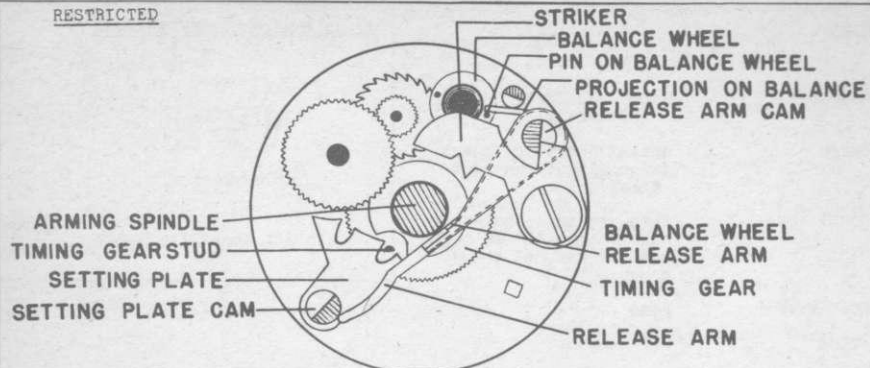
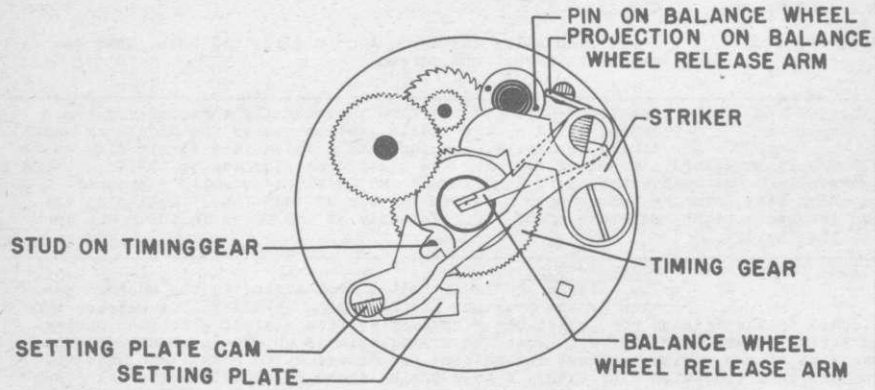
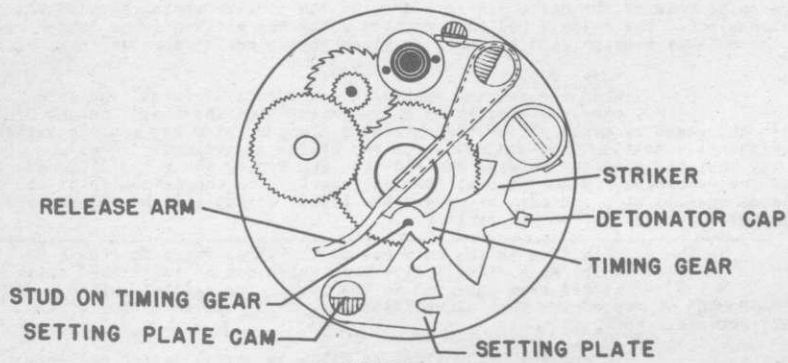

FIGURE 9
FIGURE 10
FIGURE 11
<div>RESTRICTED</div> <div>Data</div> <div>BOMB USED IN M 83 4 lb. Frag. (Butterfly).</div> <div>FUNCTIONING Mechanical time fuze, max. setting of 30 minutes.</div> <div>ARMED CONDITION Assumed armed when arming spindle is out .25 in., as there is no external indication of the time setting.</div> <div>FUZES USED WITH None</div> <div>ARMING TIME 3.5 rotations of arming spindle.</div> <div>DIAMETER OF FUZE 1.75 in.</div> <div>LENGTH (w/booster) 2 in.</div> <div>SPINDLE LENGTH 6.5 in.</div> <div>MATERIAL Three zinc alloy castings, top, middle, and base, held together by three long screws.</div> <div>GENERAL:<div>The top section of the fuze is centrally threaded for the arming spindle, the middle section houses the clockwork and firing mechanism, and the base section is a simple flat casting added only to afford a means of screwing the plastic booster cup to the fuze. The fuze screws into the bomb with a left hand thread and is tightened with a spanner wrench which fits into the two spanner holes in the top of each fuze. Luting on the threads insures a tight, moisture-proof fit. Assembly of the fuzes in the bombs is done at the factory.</div></div> <div>OPERATION:<div>The clockwork mechanism in the unarmed position is seen in Fig. 9. When the arming spindle has been withdrawn approximately .25 inch, the balance wheel release arm, pivoted on the release arm cam, moves a limited distance until it is centered over the hole previously occupied by the arming spindle, Fig. 10. This action prevents the reinsertion of the arming spindle and starts the mechanism in operation as the projection on the balance wheel release arm frees the balance wheel. With a maximum setting time of 30 minutes, the functioning is as follows:<div>(1) The timing gear, under the influence of its clock spring, rotates in a counter-clockwise direction. Near the end of its first revolution, the stud on the timing gear engages the first slot of the setting plate and pulls the latter around with it a limited distance in a clockwise direction.</div><div>(2) Near the end of the timing gear's second revolution, the stud engages the second slot in the setting plate, once again moving it a limited distance.</div><div>(3) Near the end of the third revolution, the stud on the timing gear engages the heel of the setting plate to move the latter clear of the timing gear. With the setting plate in this position, the setting plate cam presents its cutaway section to the release arm, thereby freeing the release arm. The release arm is forced past the setting plate by the spring-loaded striker bearing against the release arm cam. As the pivoted striker clears the release arm cam it is free to strike in a counter-clockwise direction and fire the detonator, Fig. 11.</div></div></div> <div>REMARKS:<div>Each complete rotation of the timing gear takes approximately 9 to 10 minutes and with the maximum setting of the setting plate a delay of 27 to 30 minutes will result. By varying the initial position of the setting plate and/or timing gear at the factory, the fuze can be set to function for any desired time up to 30 minutes. This fuze is a copy of the German (67) Butterfly fuze.</div></div>	<div>U. S. ARMY "BUTTERFLY" FUZE</div> <div>MI30</div> <div>(Service)</div> <div>Mechanical Time</div>